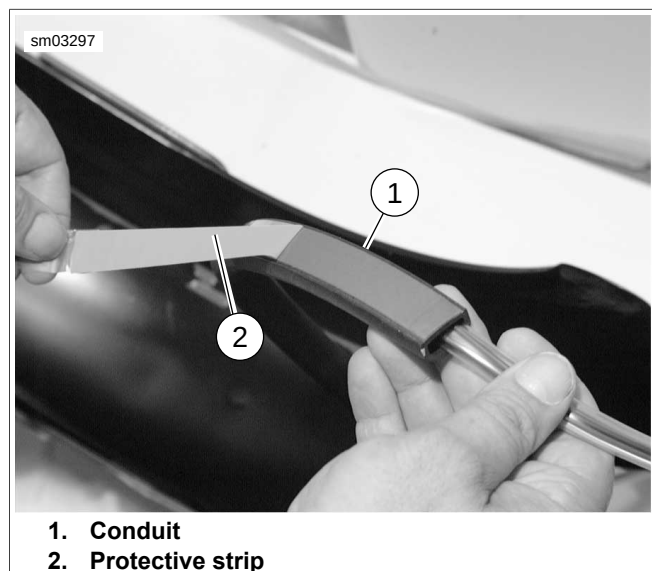

Figure 2-119. Removing Protective Strip From Conduit
7. See Figure 2-119. Remove protective strip covering adhesive on conduit.